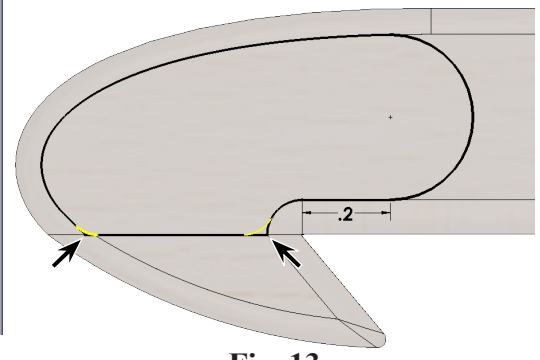
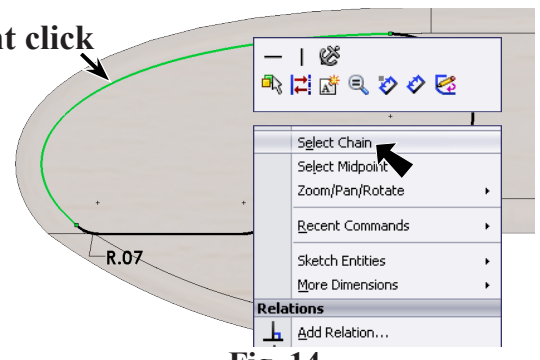

Fig. 13
Fig. 14
click both endpoints of horizontal line, **Fig. 13** and **Fig. 14**
Step 1. **Right click any geometry of the sketch and click Select Chain** from the menu, **Fig. 14**.